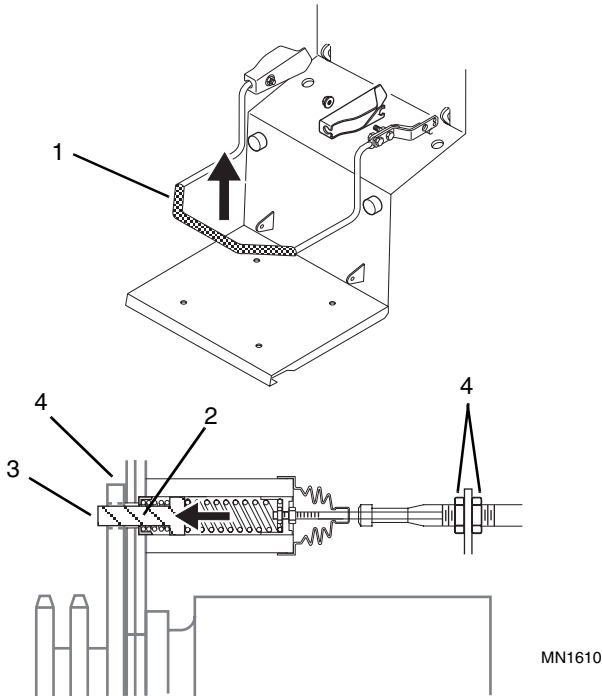

Figure 7-84 Park Lock - Engaged
5. Raise seat bar (Fig. 7-84, 1).
6. Inspect to see that both pins (Fig. 7-84, 2) have fully extended through the hole (3) in its respective drive sprocket (4).